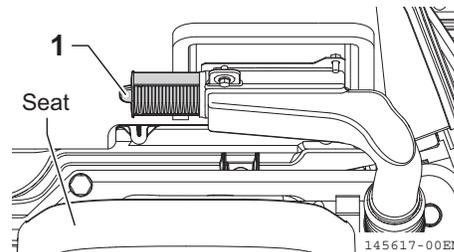

Fig. 8-40
3. Hold the handle of the external filter (Fig. 8-40, 1) installed on the cabin panel located behind the seat to pull out the external filter (Fig. 8-40, 1).